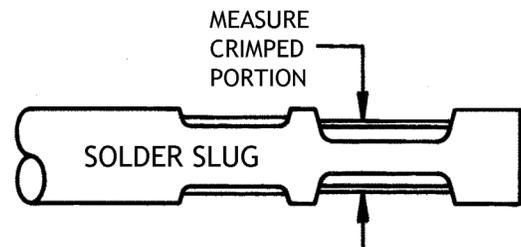

Fig. 5
5. Measure crimped portion of solder with calipers (See Figure 5). Check actual dimension with table tolerances ($\nabla 0.004"$ or $\nabla 0,10\text{mm}$). Shut height dimensions for wire crimp die inserts should not be greater than or less than tolerance dimension.